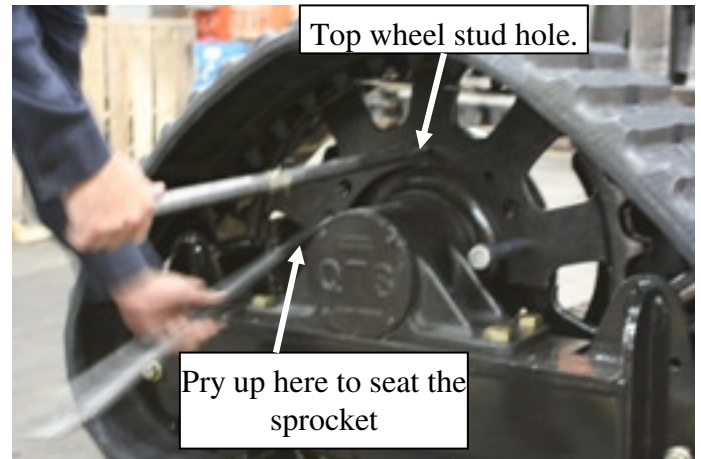

Fig. 8
- g. Line up the top wheel stud hole with another pry bar. **Fig. 8**
- h. Insert another pry bar in the wheel stud hole that is opposite the split tooth. **Fig. 8**